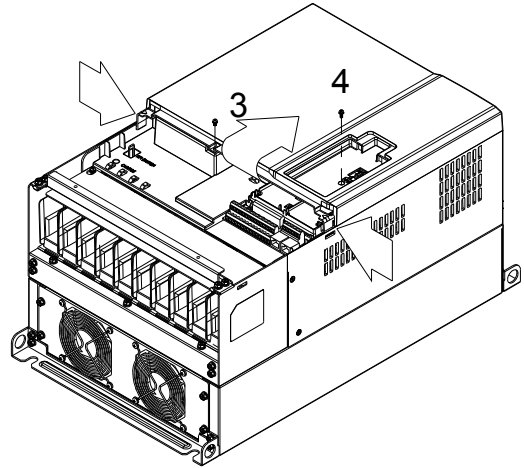

Figure 2
5. (Figure 2) Loosen screw 3 and screw 4, press the tab on the right and the left to remove the cover. Screw torque: 6~8kg-cm (5.2~6.9in-lbf).